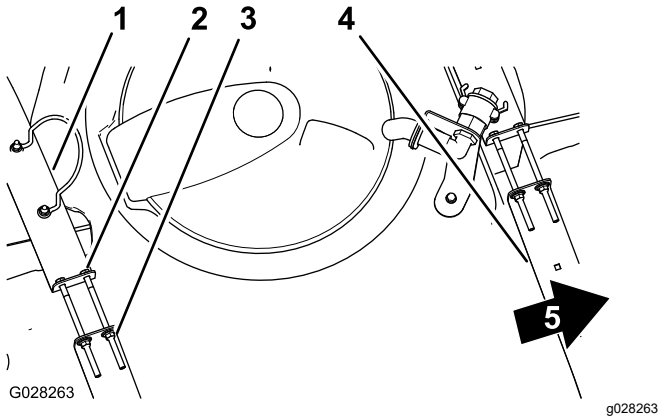

Figure 19
2. Check to see if there is any movement between the tank straps and the tank (Figure 19).
3. If the tank straps fit loose to the tank, tighten the flanged locknuts and bolts at the top of straps until the straps are flush with the surface of the tank (Figure 19).